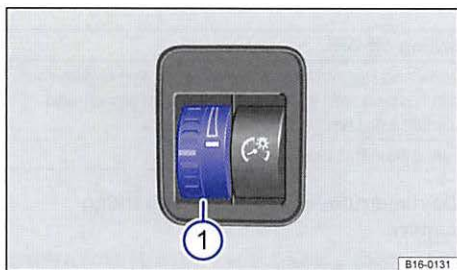

Fig. 73 To the left of the steering wheel: Control for instrument panel lighting ①.
When the lights are on, the brightness of the instrument panel lighting is adjusted by turning the thumbwheel ⇒ fig. 73 ①.